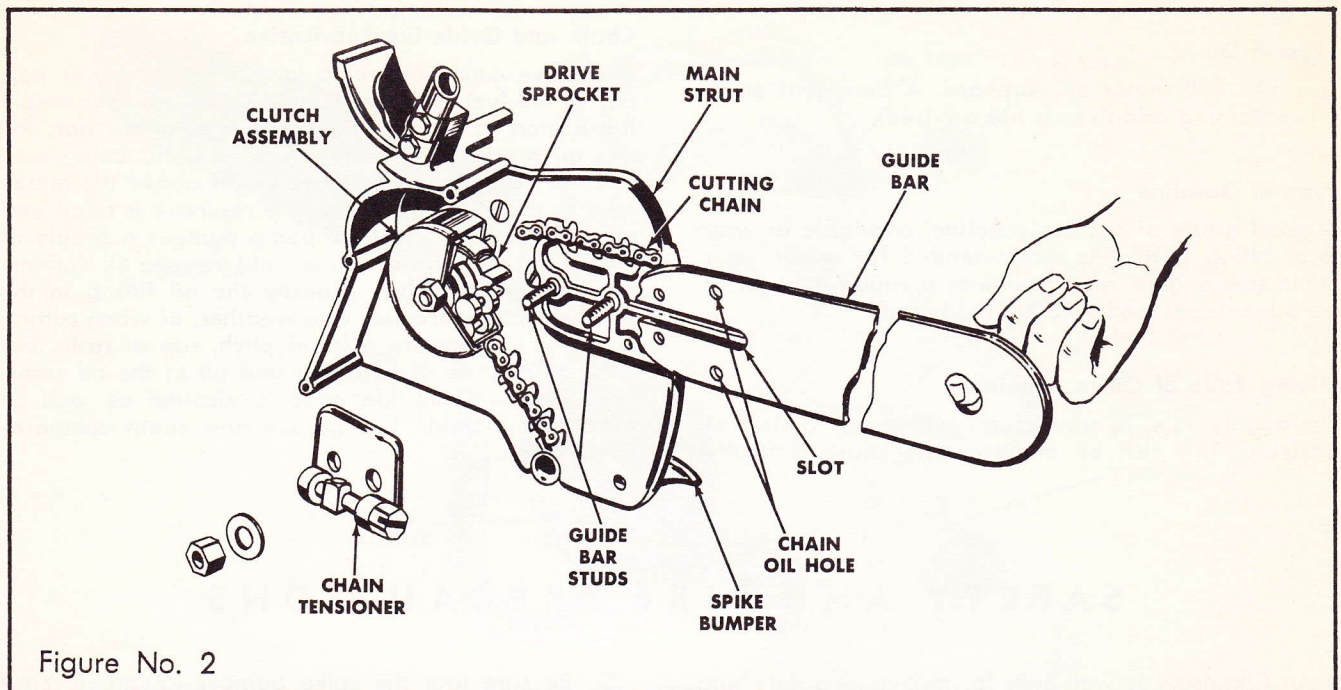

Figure No. 2
1. Slide the guide bar over the mounting studs to the full length of the guide bar slot. (See Figure No. 2)